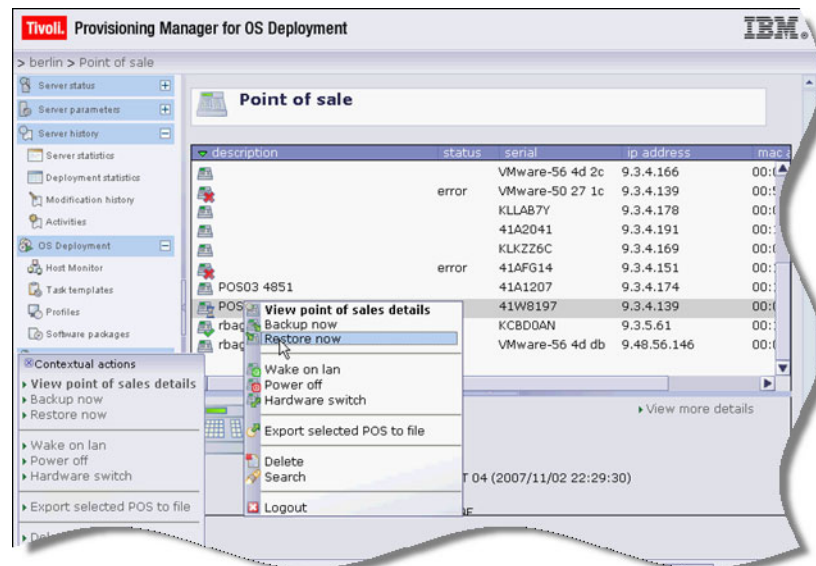

Figure 5-19 Selecting restore now from the context menu
2. Right-click on the entry for the terminal you want to restore and from the context menu and select **Restore** (Figure 5-19).